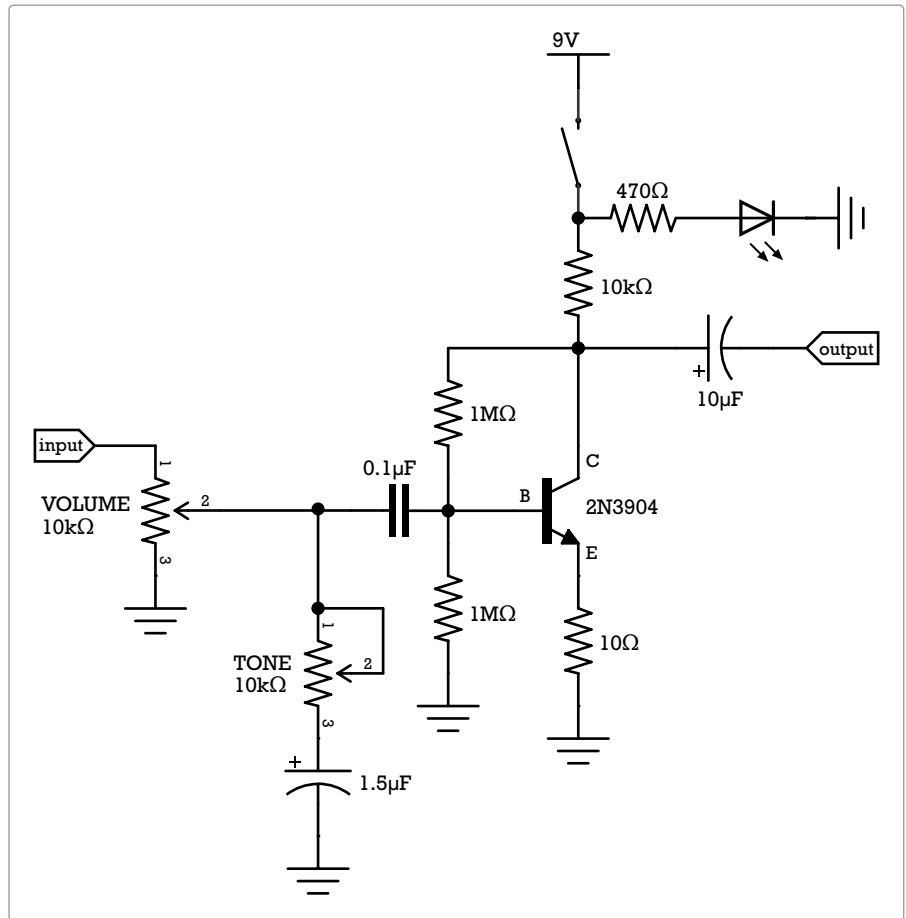
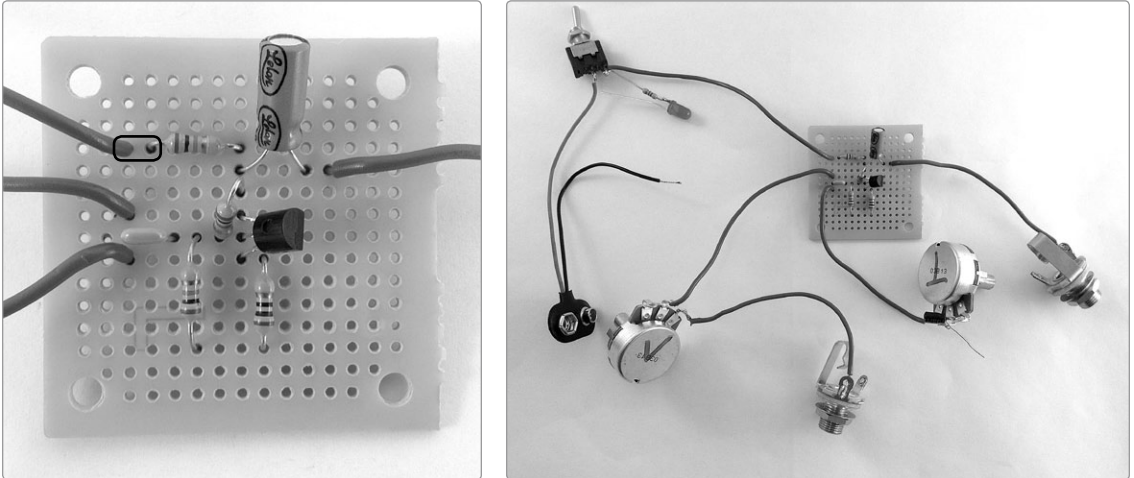

FIGURE 12-3: *The circuit diagram for the Mud-n-Sizzle Preamp*
FIGURE 12-18: Power is installed, but the ground is still incomplete (detail at left, full circuit at right)
First, peek at the diagram for this circuit, as shown in Figure 12-3. If this schematic means nothing to you, don't sweat it: that's why there are illustrated step-by-step instructions.
Keep in mind that a circuit diagram shows functional relationships between components; it's not an image of how the pieces are physically laid out but instead illustrates how the pieces connect. Connections to the ground—that is, the negative battery terminal—are a perfect example: this circuit has quite a few ground connections, each represented by a little triangle made from three parallel lines. Five of these are shown in Figure 12-3, peppered around the circuit. The input and output jacks will also each be grounded, for a total of seven ground connections. The schematic shows ground connections all over the place, but on the physical board, they're all clustered in the same row.
Step 21 Time to add power! Take the power switch assembly from Step 6 and insert the insulated wire into the first open hole to the left of the 10k ohm resistor (brown-black-orange stripes), as shown in Figure 12-18. Solder the power wire to its copper pad, solder the free 10k ohm resistor leg to its copper pad, and then connect the two. Trim the leads.
The circuit is nearly finished; it's just missing the ground connection (for reference, the completed, groundless circuit is shown in the right panel of Figure 12-18). Right now you have two components connected (but not yet soldered) to the row of holes that will serve as the *common ground* linking your circuit to the battery's negative terminal: a 1M ohm resistor (brown-black-green stripes) and a 10 ohm resistor (brown-black-black stripes).
Time to power up and test out the circuit! Before connecting the battery, do a quick visual check to make sure all of your soldered connections are indeed connected, with no wire left unsoldered. Figures 12-18 (which shows everything but the ground connections) and 12-19 (which gives a tight detail of the star ground) are good references for this check, as is the schematic in Figure 12-3.